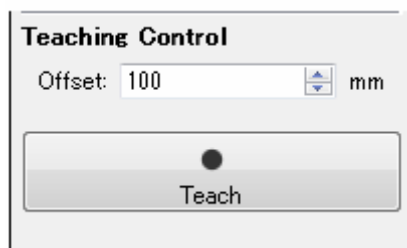

Figure 7-43 Teaching setting
- Click the “Teach” button (Figure 7-43).